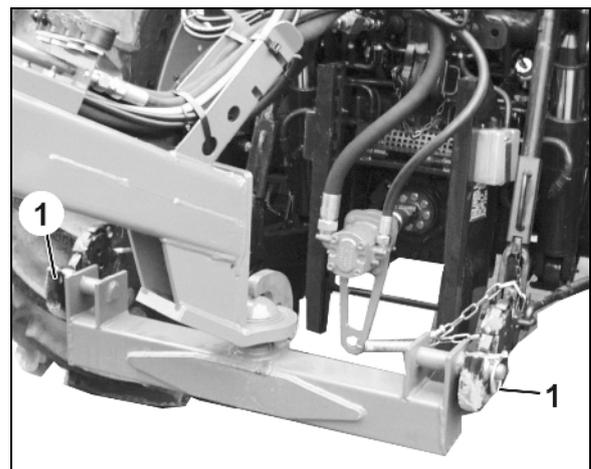

Fig. 86
2. Secure the lower link pins from being released unintentionally using linchpins (Fig. 86/1).